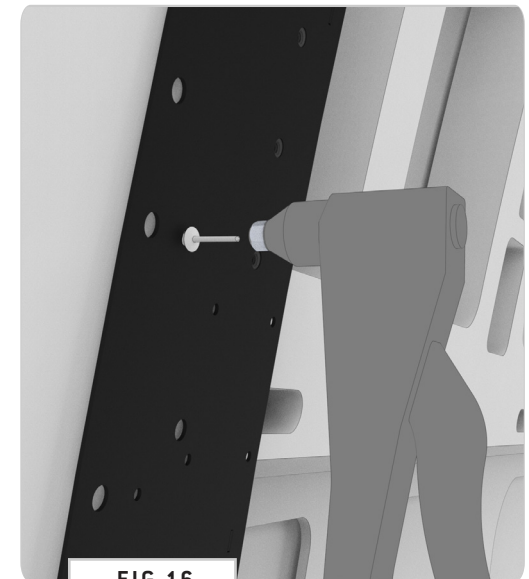

FIG 16
**5.3 Install Rivets:** After the paint has dried, install the **Rivets (FIG 16)**.